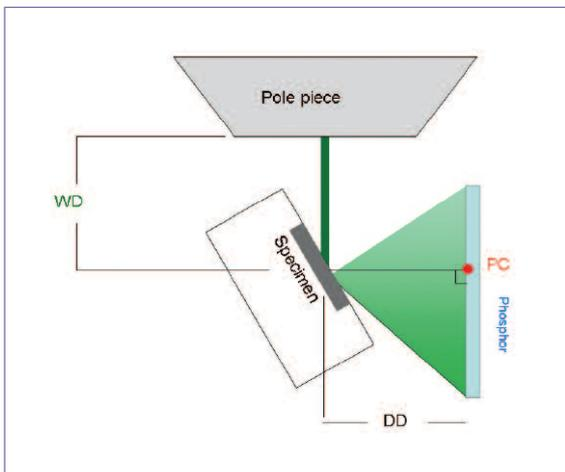

Figure 2. The EBSD originates from the point (Excitation Volume) where the electron beam hits the specimen surface.
There are two main calibration parameters that change with everyday use of the microscope – Detector Distance and Working Distance (Figure 2), which affect the Projection Parameters (PP).